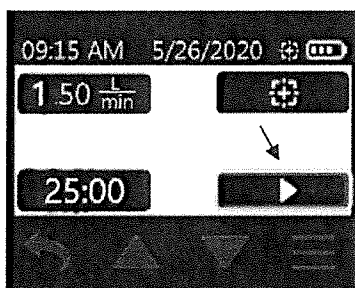

Figure 38. Run Button
3. Touch Run button in Flow Menu to run pump in constant flow (Figure 38).